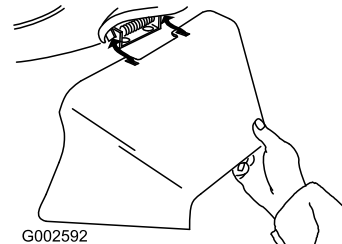

Figure 30
3. Install the side-discharge chute and close the door onto the chute (Figure 30).